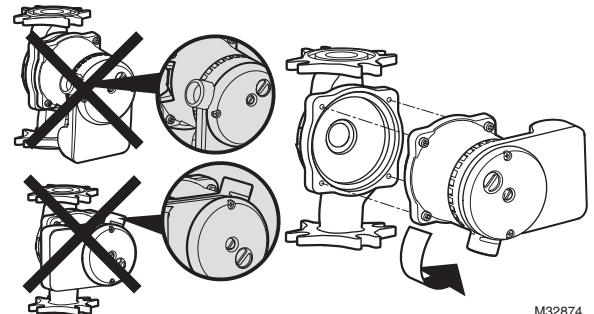

Fig. 7. Changing conduit position on pump.
- It is good practice to install the pump so the conduit connection is pointing downward (see Fig. 7).
- To change where the wiring comes into the pump, support the motor assembly while removing the four (4) screws on the motor assembly using a 5/32 in. (4mm) L-shaped hex head wrench.